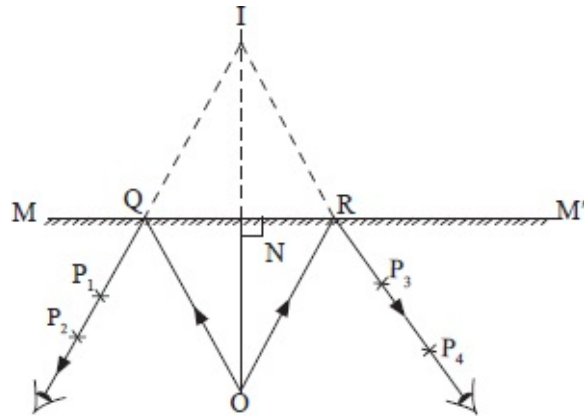

Fig. 8.30: Locating an image in a plane mirror
- Arrange the mirror on softboard, as in figure 8.30.
- Draw another line through P_3 and P_4 to cut the mirror line at R . Extend the two lines to meet at I as shown in figure 8.30.
From figures 8.30 and 8.31, it is clear that no rays come from the image. The rays (represented by dotted lines) only appear to come from there.